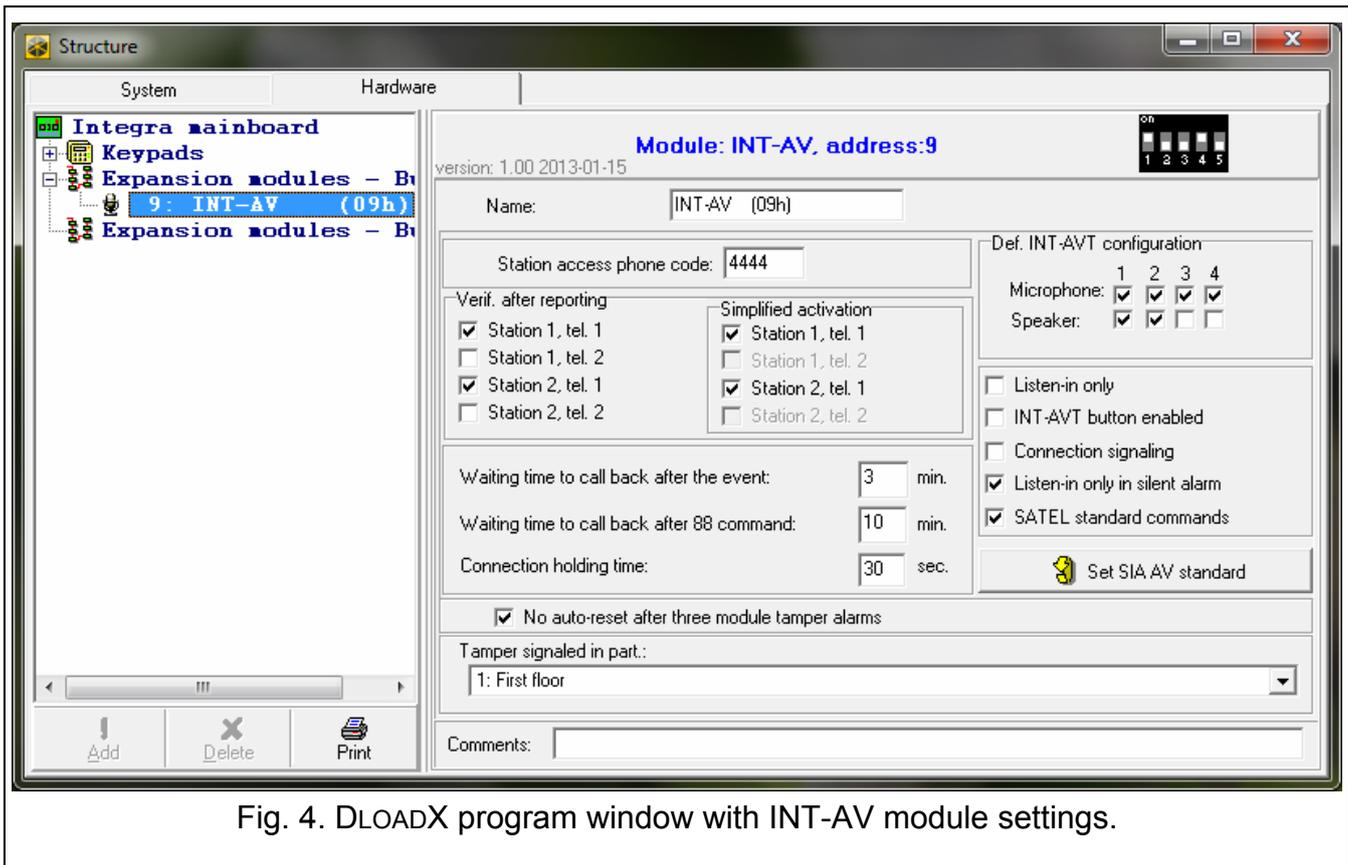

Fig. 4. DLOADX program window with INT-AV module settings.
- DLOADX program: →"Structure" window →"Hardware" tab →"Expansion modules" item →[click on the module on the list of devices] (see Fig. 4).